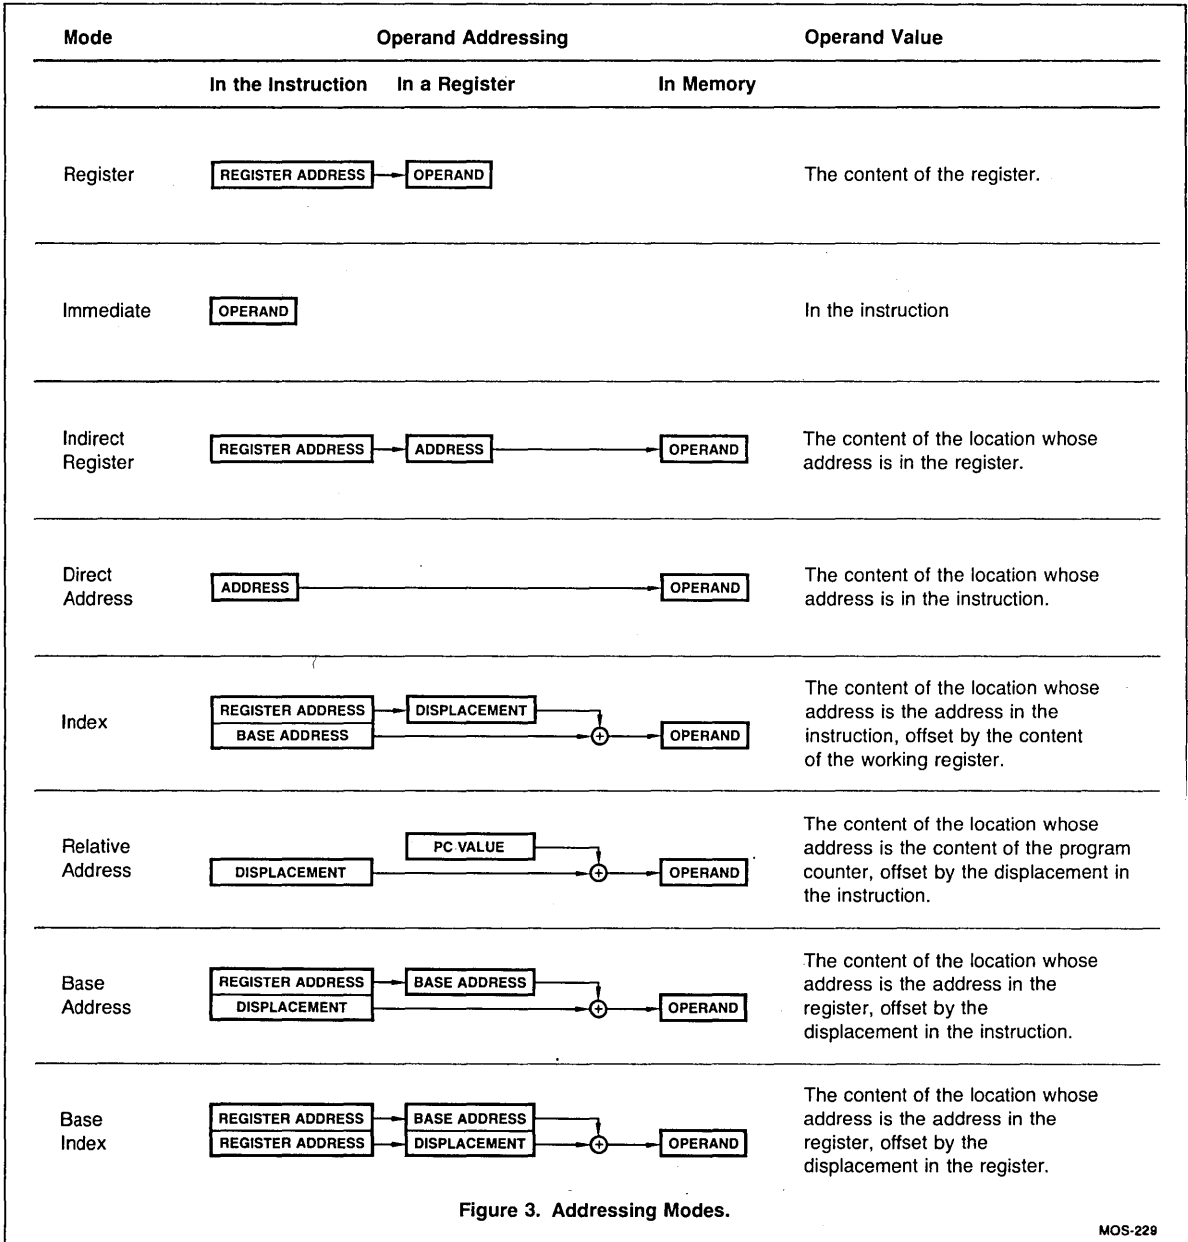

Figure 3. Addressing Modes.
Information contained in the AmZ8002 instructions consists of the operation to be performed, the operand type and the location of the operands. Operand locations are designated by general register addresses, memory addresses or I/O addresses. The addressing mode of a given instruction defines the address space referenced and the method to compute the operand address. Addressing modes are explicitly specified or implied in an instruction. Figure 3 illustrates the eight explicit addressing modes: Register (R), Immediate (IM), Indirect Register (IR), Direct Address (DA), Indexed (X), Relative Address (RA), Base Address (BA) and Base Indexed (BX).